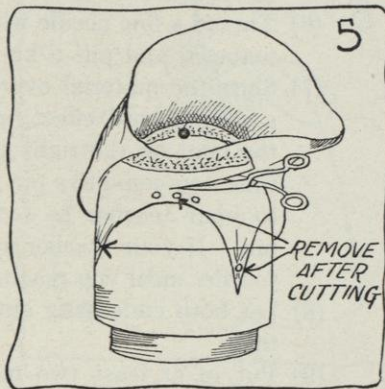

FIG. 5.
g. Steam the crown either over the foundation crown, or directly over the block. If the crown is not removed from the block, start with Section (2). If the crown has been removed go right on with Section (1).
- (1) If the crown has been removed, to steam a foundation crown over the block, put it back again, and again be sure that the tip is an even distance from the bottom of the block.
- (2) Put a thumb tack at front, back, and sides in the folded edge at the top of the shirrings of the side crown, even if you have not removed crown from the block (see Figure 5). Omit Section (3) if you are working on a crinoline foundation.
- (3) If crown was not removed from block (no foundation crown used), follow these directions:
- (a) Lift the side crown gently so that you can get at the tip to remove thumb tacks underneath (see Figure 5).
- (b) Cut the uneven part of the tip off $\frac{1}{2}$ inch below the stitching where the side crown is attached to the tip (see Figure 5). **Be careful not to cut side crown.**
- (c) Remove the thumb tacks and the scraps of material (see Figure 5).